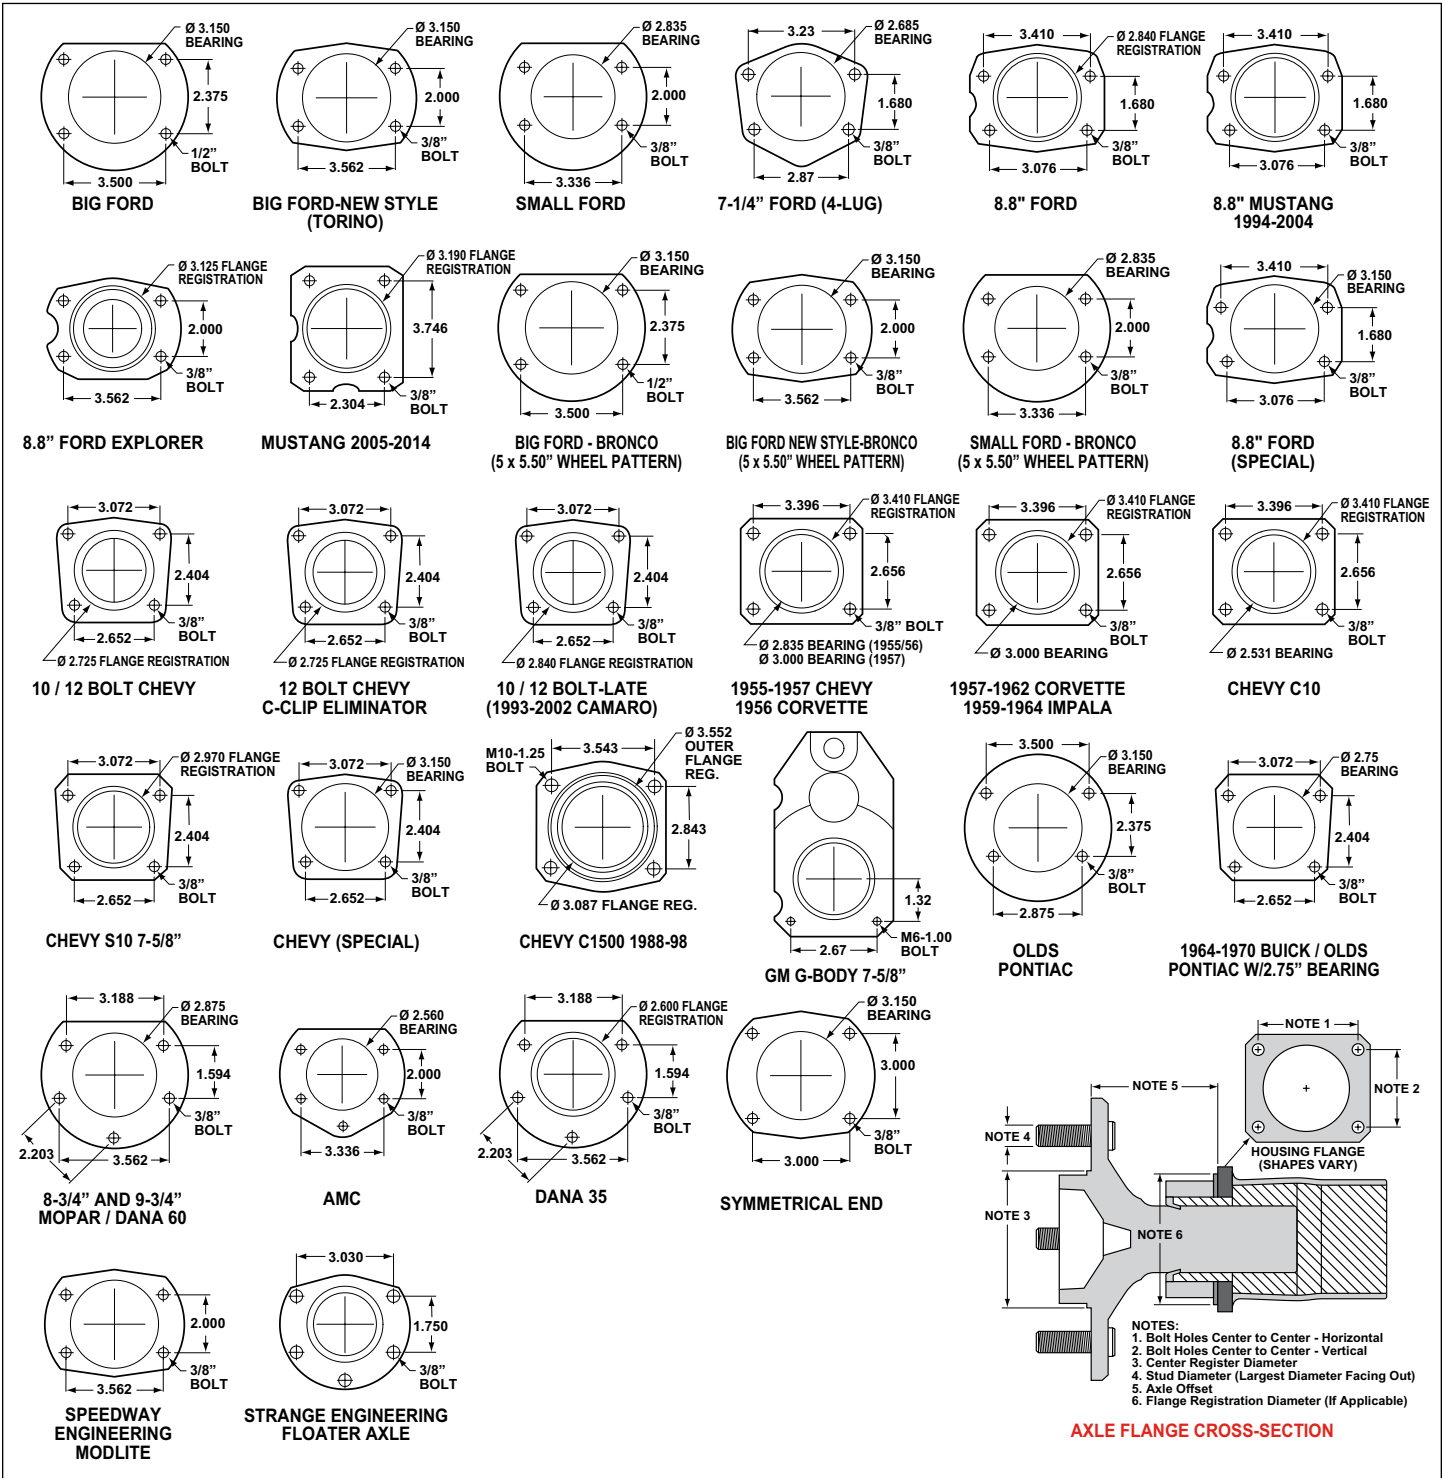

Figure 6. Rear Housing Flange Chart and Axle Flange / Offset Cross-Section
• Make sure this is the correct kit to match the axle housing flange, not necessarily the rear end make. Many times aftermarket manufacturers put a different make of flange on the stock rear end housing (see Figure 6). Example; Big Ford rear ends with Olds-Pontiac flanges, therefore, an Olds-Pontiac rear disc brake kit would be the correct kit to order.
- Bearing outside diameter (see Figure 6).
- Housing flange mounting pattern to pattern in new bracket (see Figure 6).
- Offset dimension from wheel side of axle flange to wheel side of housing flange (see Figure 6, lower right hand corner). This dimension is critical to ensure proper alignment of the rotor to the caliper, and should match offset given in the kit description on the cover page.